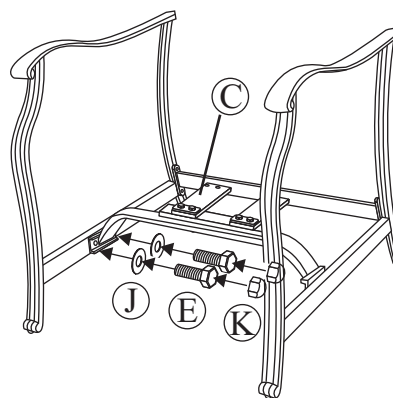

Fig. 2
- 2 Attach the support bar to the chair legs by using the 1/4"x20 mm bolts and washers as shown in Fig. 2. Guide these bolts through the holes in the support bar, into the pre-drilled holes in the chair legs. **Hand tighten only.**